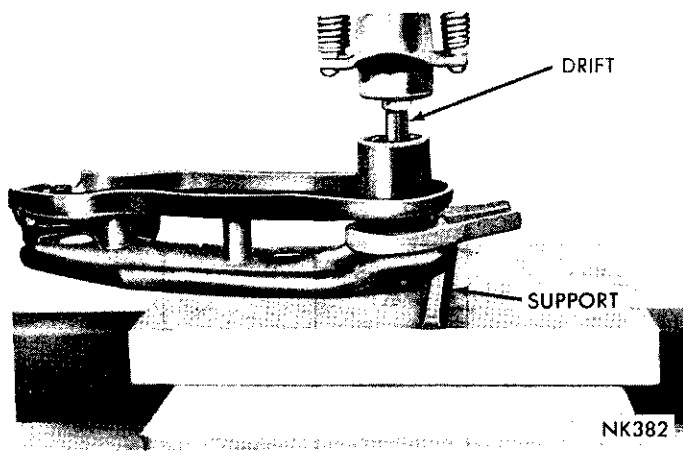

Fig. 16—Removing Pivot Shaft (Chrysler)
(1) Place strut portion of control arm assembly in a vise and remove nut from strut.
(2) Remove strut from control arm.
(3) Remove torsion bar adjusting bolt and swivel from control arm.
(4) Place control arm assembly in an arbor press with torsion bar hex opening up and with a support under outer edge of control arm (Fig. 16).
(5) Place a brass drift into hex opening and press shaft out of control arm (Fig. 16). The bushing inner shell will remain on shaft.
(6) Remove bushing inner shell from pivot shaft.
(7) Remove rubber portion of bushing from control arm.
(8) Remove bushing outer shell in control arm by cutting with a chisel. **Use care not to cut into control arm.**